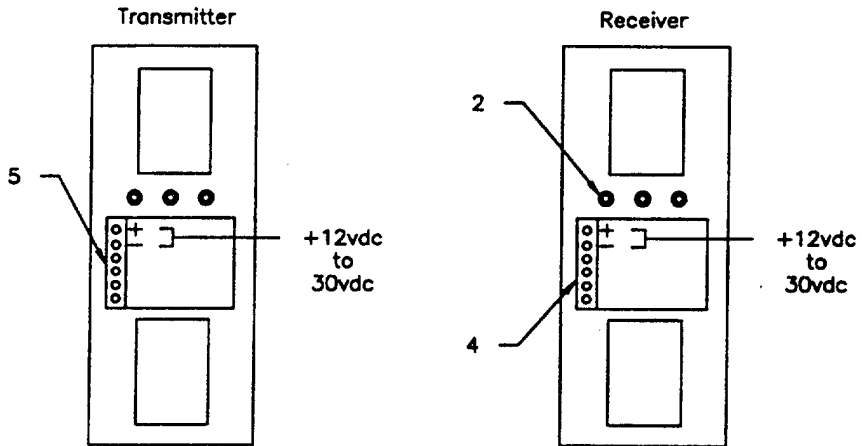

Figure 3-19. Exterior Infrared Perimeter Sensor Assembly
10. EXTERIOR INFRARED PERIMETER SENSOR FAILURE (Figure 3-19)